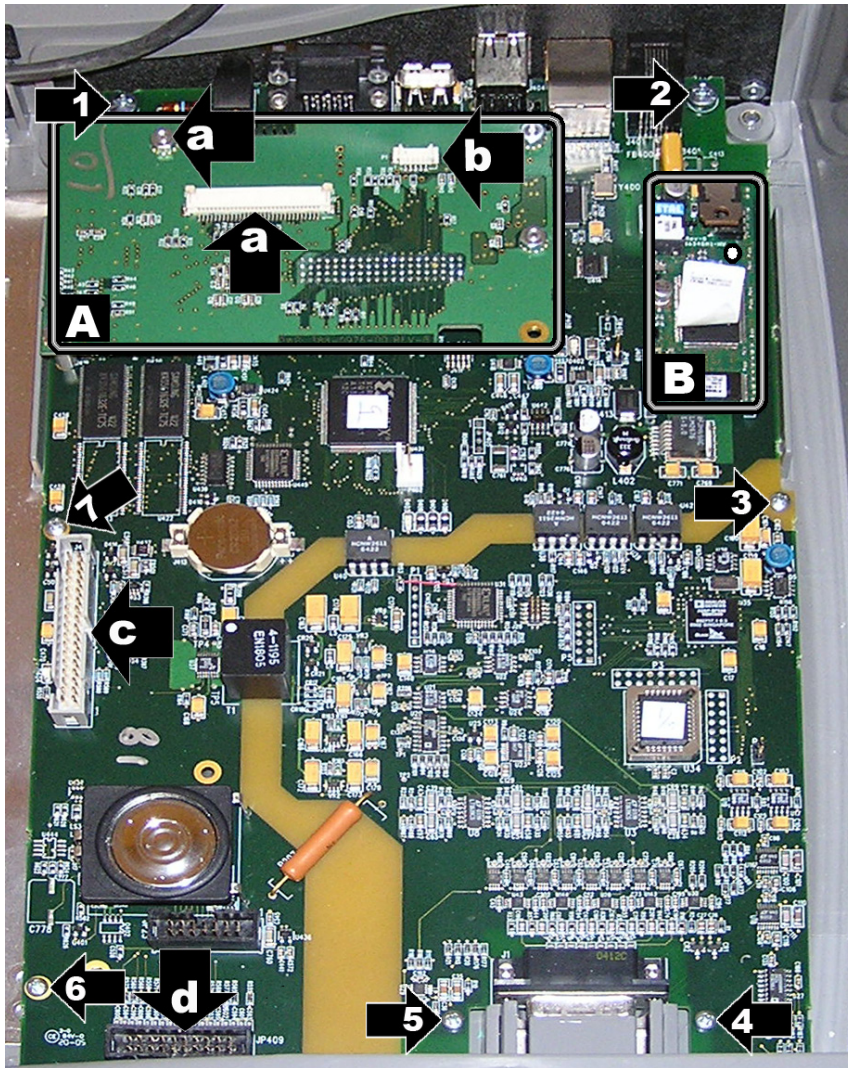

Figure 5: Mainboard Removal
1. Disconnect the keyboard cable connector from JP409 (labeled d in Figure 5).
4. Remove the 7 screws (labeled 1-7 with black arrows on Figure 5).